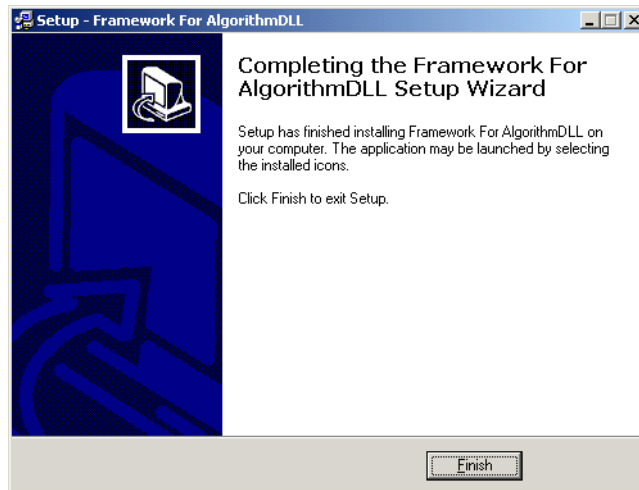

Figure 17 Completing the installation
- 8 Check the displayed installation parameters. Click **Back** to change the settings. Click **Install** to start the installation. The program files will be copied to the selected installation folder, into subfolder AlgorithmDIIFramework. When completed, the dialog box in Figure 17 will appear.